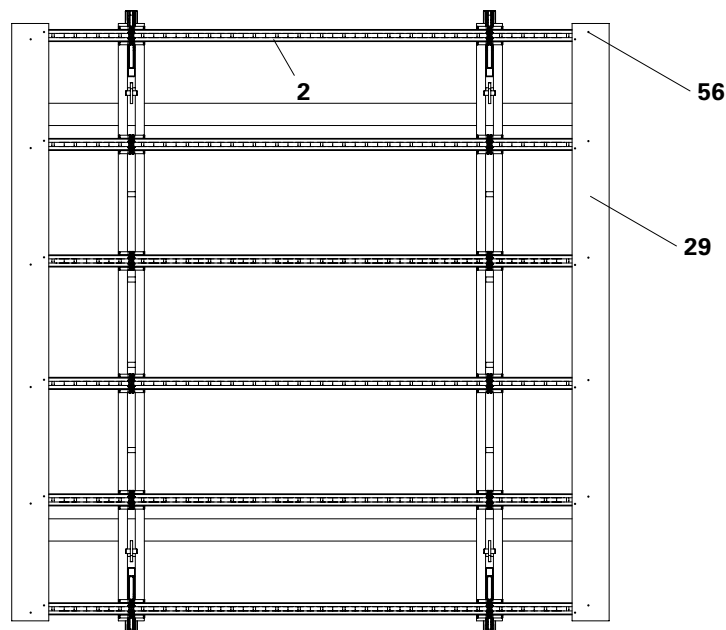

Fig. B2.13
2. Align each planking 50 mm (**29**) flush with the ends of the girders (**2**). Ensure that the overhang is the same on both sides. (Fig. B2.13)